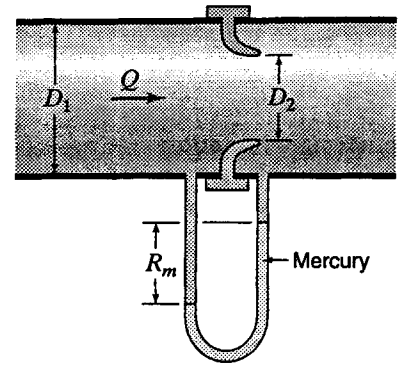

Figure P11.31
11.31 A 7-in ISA flow nozzle is used to measure the flow of 20°F crude oil ( $\rho = 0.855$ ) through a 10-in-diameter pipe (fig. P11.31). If a mercury manometer shows a reading of 6.9 in, find the flow rate.